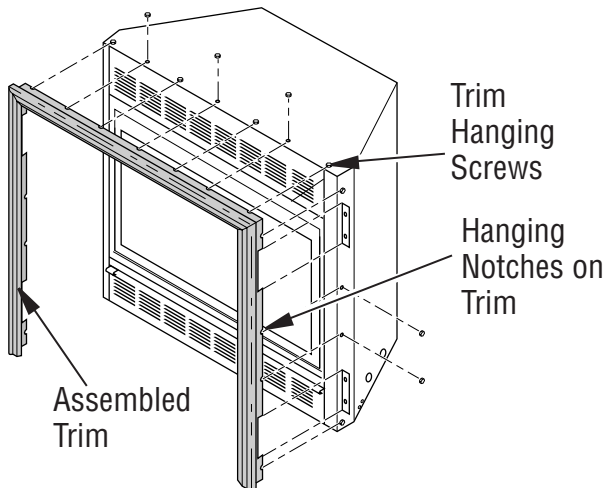

Figure 7 - Attaching Trim to Fireplace
8. Tighten trim hanging screws (#10 x 6.25 shoulder) into holes in cabinets. Place assembled trim onto fireplace cabinet. Align hanging notches on trim with hanging screws on side of fireplace (see Figure 7). Push trim firmly into place, sliding hanging notches over hanging screws.
15. Install trim after final finishing and/or painting of wall (see **Figure 7, Page 9**).